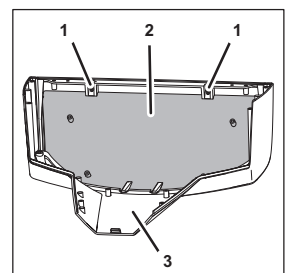

Fig. 45
3. Remove the fastening bolts (Fig. 45/1) from the hood (Fig. 45/2).
4. Remove the hood (Fig. 45/2) from the front panel (Fig. 45/3).
5. Position the new hood (Fig. 45/2) within the front panel (Fig. 45/3).
6. Attach the hood (Fig. 45/2) using the fastening bolts (Fig. 45/1).